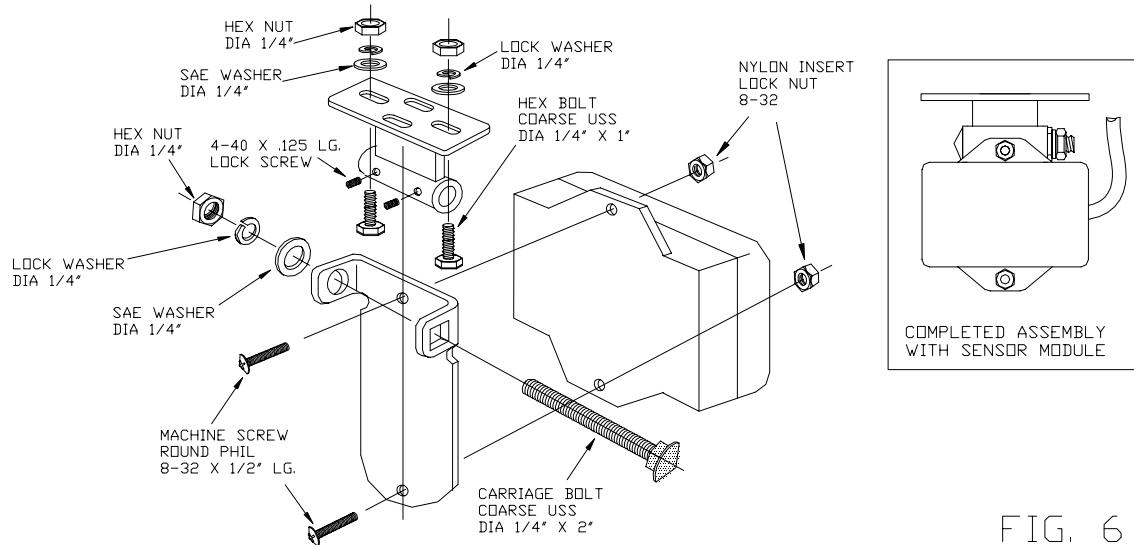

FIG. 6
**GUIDE TO MOUNTING BRACKET ASSEMBLY (Figure 6)**